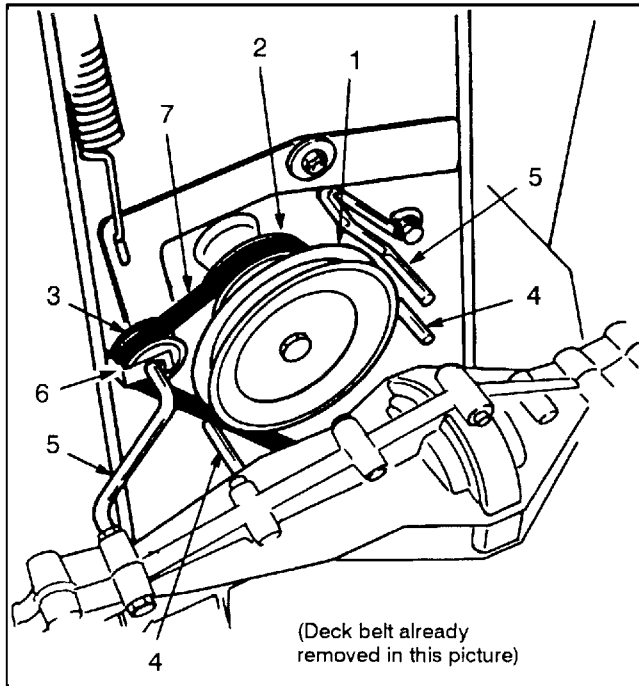

Figure 26
3. Remove traction drive belt and inspect it for damage or wear (Fig. 26). If needed, install a new belt.
4. Install belt guides by the transmission pulley (Fig. 26). Also install belt retainer on idler pulley and tighten the locknut.